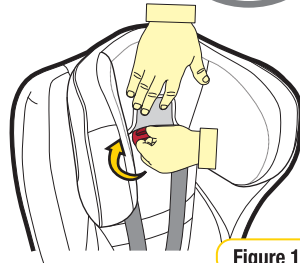

Figure 1
Step 2: To adjust the headrest, lift the “TWIST & LIFT” flap on the headrest cover. Turn the red “TWIST & LIFT” knob clockwise to unlock the headrest (refer Figure 1).